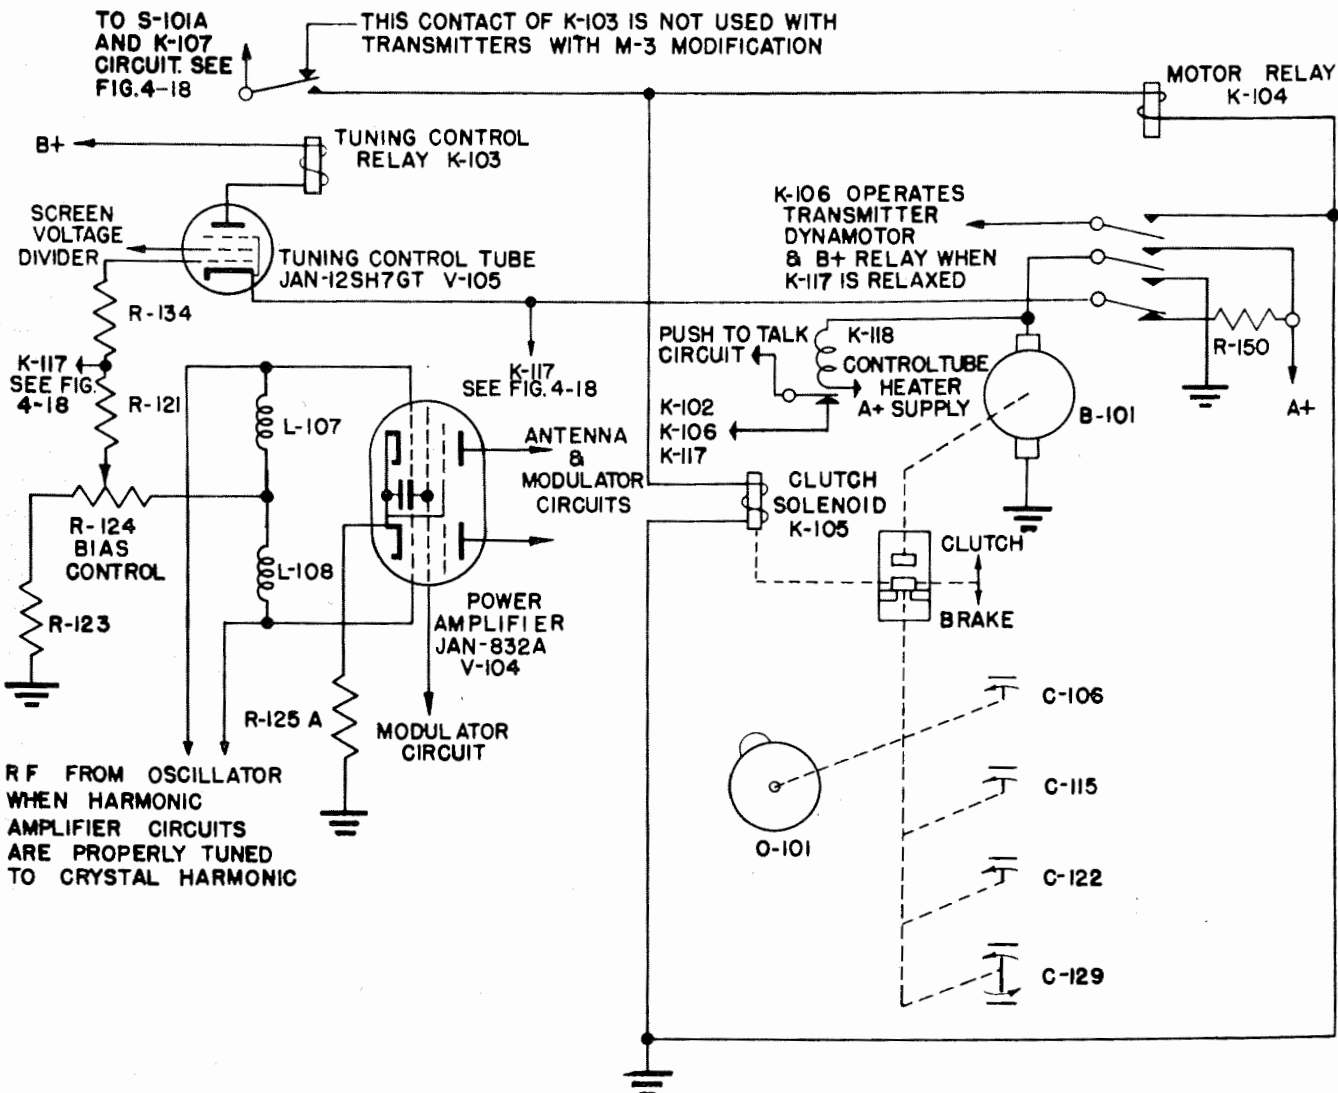

Figure 4-16. Radio Transmitter T-67/ARC-3 or T-312/ARC-36 With Modification M-3—
(a) The variable capacitors C-106, C-115, C-122, and C-129 and Cam O-101 are driven through the clutch-brake mechanism by motor B-101. (See fig. 4-16 or 4-17.) Operation of the motor is controlled by a pair of contacts on motor relay K-104, which also contains other contacts necessary to the operation of the circuit.
(d) The basic operation of the tuning control circuit (see fig. 4-16 or 4-17) is as follows:
e. Cam O-101, which is being driven by the motor, is located on top of Variable Capacitor C-115. The upper face is calibrated to indicate frequency. (See fig. 4-16 or 4-17.) At one point along the circumference there is a small projection. As the cam enters the uncalibrated portion of its travel, this projection strikes an extended arm on switch S-101A and pushes it to one side. This separates the contacts of the switch until the projection has rotated past. This has no electrical effect, since the switch contacts are shorted by a contact on relay K-107.
(1) For Radio Transmitter T-67/ARC-3 or T-312/ARC-36 with modification M-3: As the cam again enters the calibrated portion of its travel, it opens switch S-101B, located on the opposite side of the cam. This momentarily removes the A+ connection from relay K-107 and causes it to open. Since its contact opens, the relay now has no connection to A+ and cannot close again. Relays K-108 and K-117 also open and remain open.